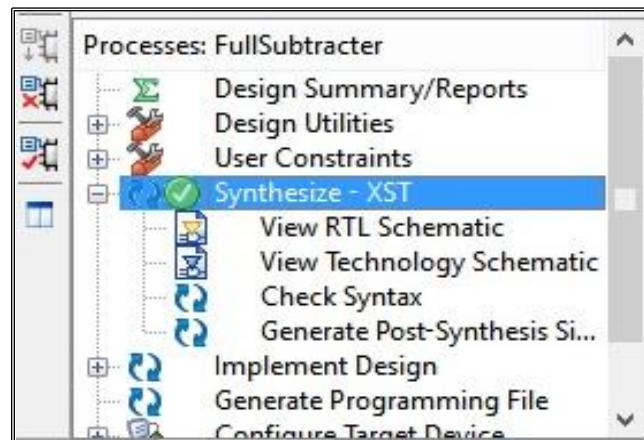

Fig 4.15: Synthesis
18. Next we have to synthesize the design. For synthesis right click on the **Synthesize-XST** and select **Run**. If the design is successfully synthesized then a green check will appear near the Synthesize-XST as shown in Fig 4.15 and "**Process "Synthesize - XST" completed successfully**" is displayed in the console window.